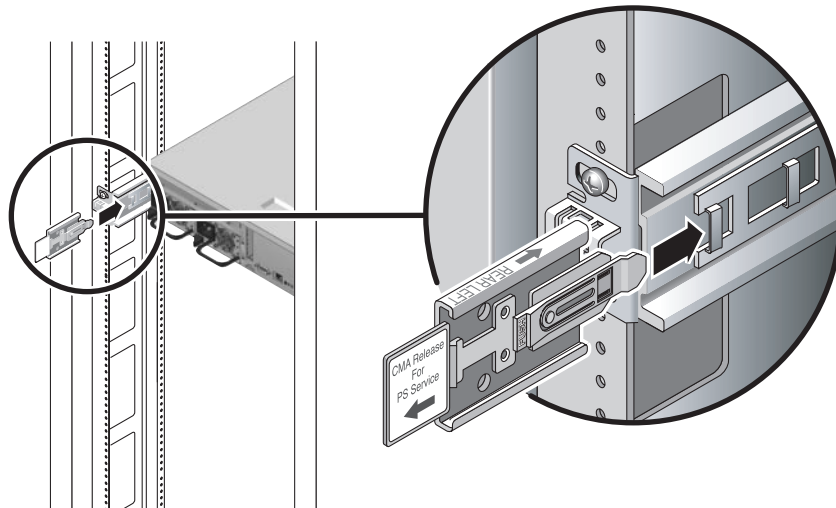

FIGURE 2-8 Inserting the CMA Rail Extension Into the Rear of the Left Slide Rail
1. At the rear of the rack, plug the CMA rail extension into the end of the left sliding rail assembly (FIGURE 2-8). The tab at the front of the rail extension will click into place.